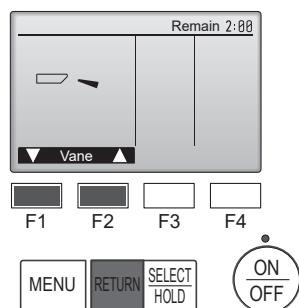

Fig. 7-4
- Press the [SELECT/HOLD] button to display the Vane operation screen, and then press the [F1] and [F2] buttons to check the auto vane. (Fig. 7-4)